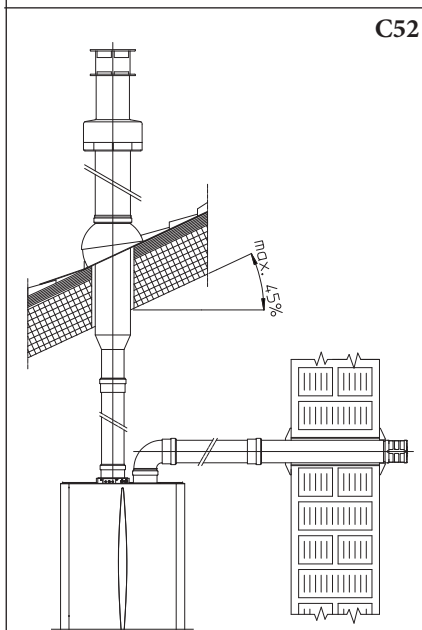

Fig. 1-27
- Figure 1-27 shows the configuration with vertical exhaust and horizontal intake.